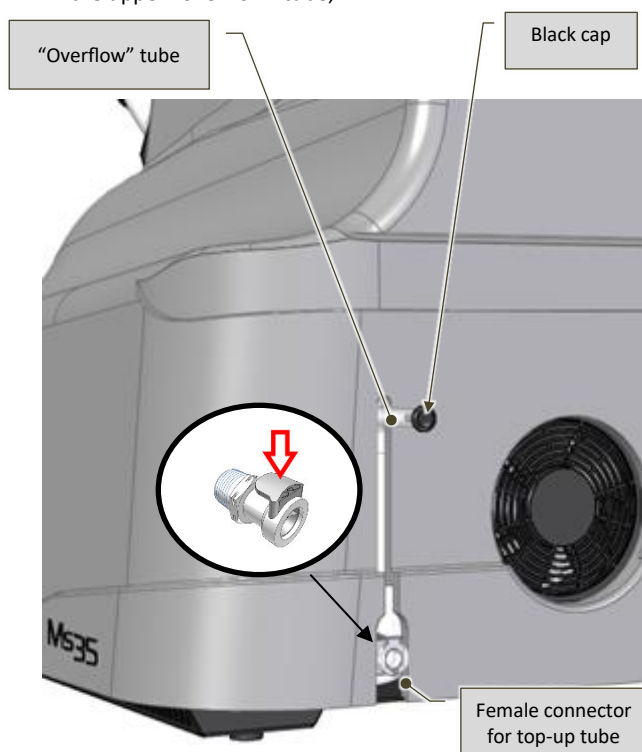

Fig. 7-18 – Cooling liquid top-up – rear view of the machine
- Connect the supplied cooling liquid top-up tube to the female connector (Fig. 7-18) on the rear of the machine;
- Manually remove the black cap (Fig. 7-18) from the “overflow” tube located on the upper rear of the machine;
**WARNING!:** Hold the overflow tube firmly (Fig. 7-18) when removing its black cap, to ensure it does not become dislodged.